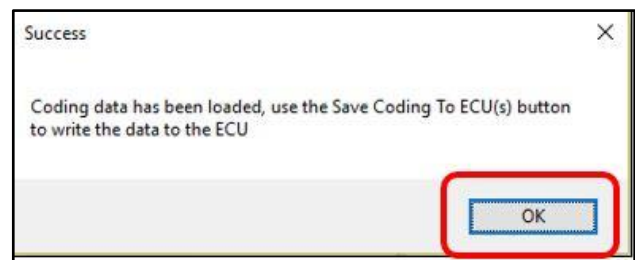

Figure 4
- 9. Success message will appear. Select "OK" (refer to Figure 4).